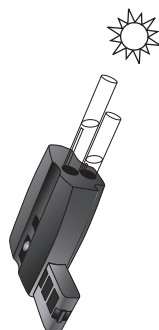

fig.4
4. Position the comparator so that light shines down through the test tubes (fig.4). Tilt the comparator until the color standards and sample are illuminated. Match the color of the reaction to the color standards. Read the result from the Low Range Comparator Bar.